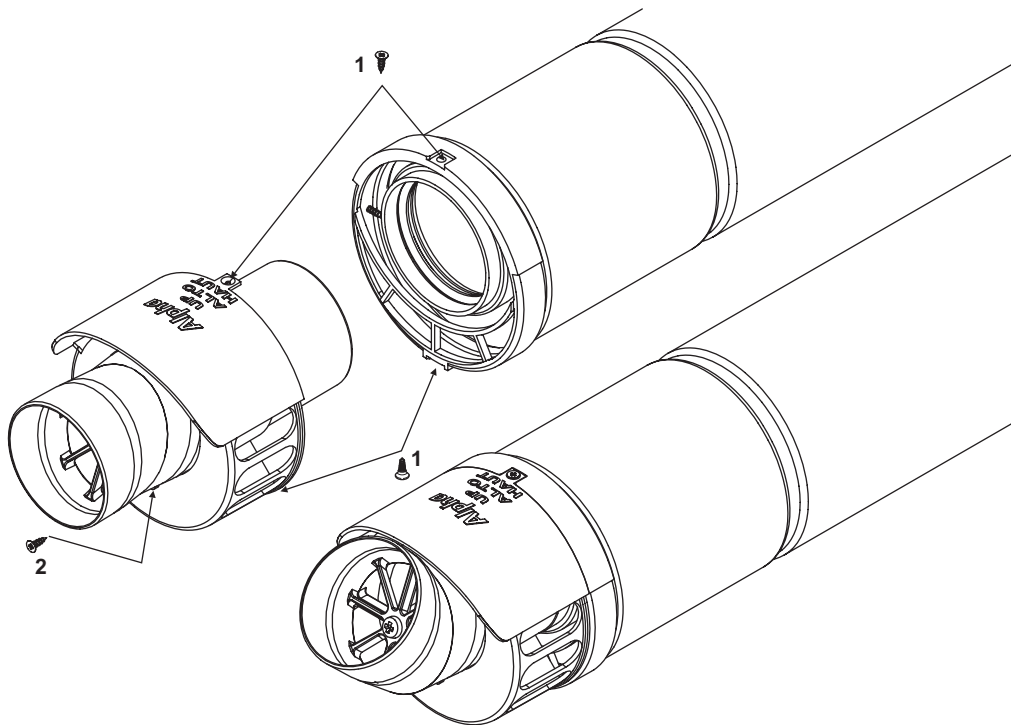

Fig. 21
- i. Remove the screws (1 in Fig. 21) securing the terminal and remove the terminal by pulling it from the flue assembly. Remove the screw (2 in Fig. 21) securing the terminal end section and remove the end section from the terminal.